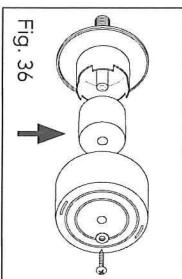

Fig. 35
1. Remove the filter from the compressor by unscrewing the screw on the plastic cover (Fig. 35).